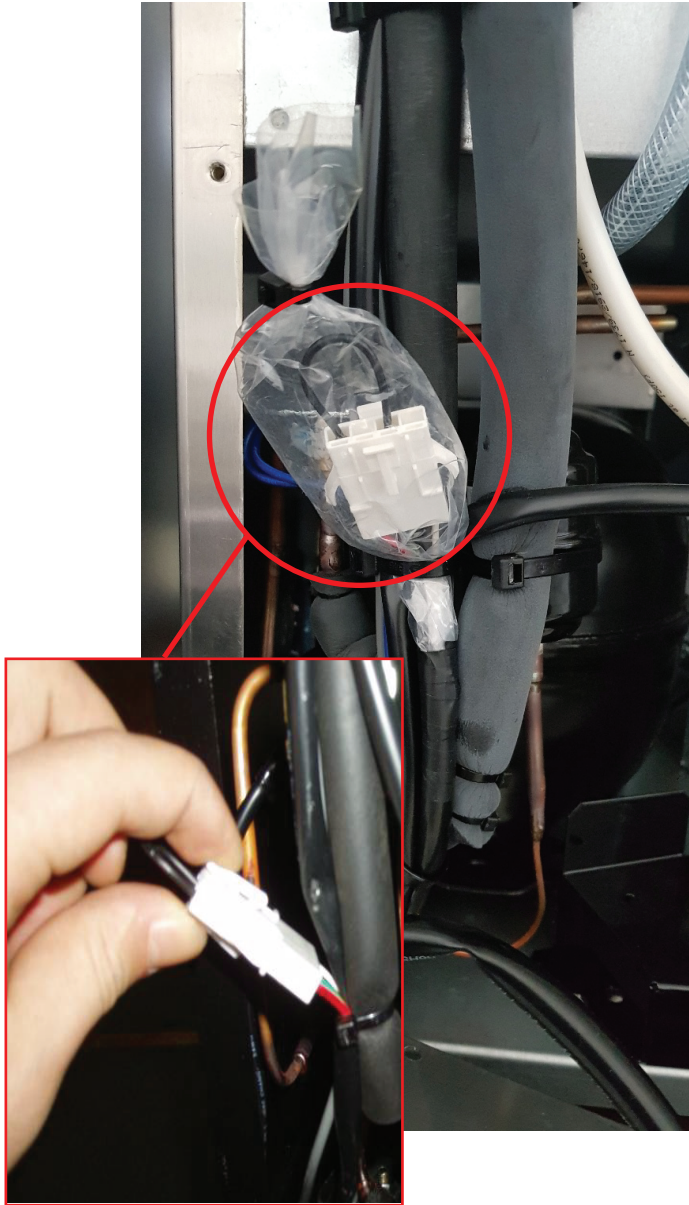

Figure 9
12. Remove the plastic covering from the ice maker's connector and separate the jumper section (Figure 9).